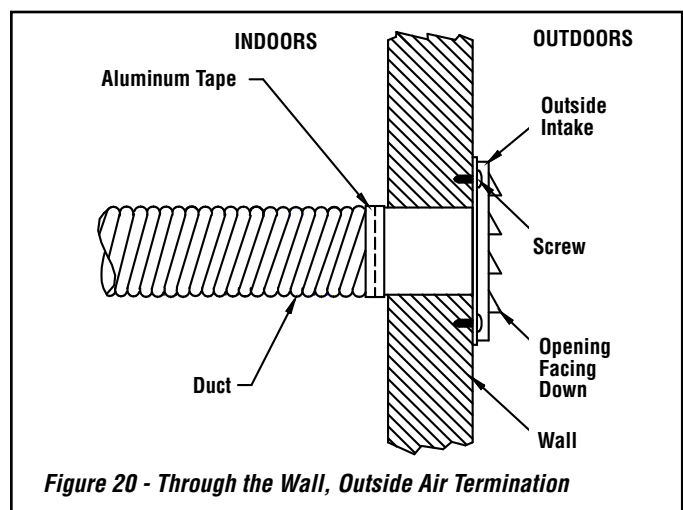

Figure 20 - Through the Wall, Outside Air Termination
- The air intake register must not be installed more than ten (10) feet (3050 mm) above the base of the stove.
- Make a 4-1/4" (110 mm) hole in the outside wall of the house at the chosen location. From outside, place the outside air register in the hole (open side down) and fasten the register to the wall, with screws as shown (see **Figure 20**).